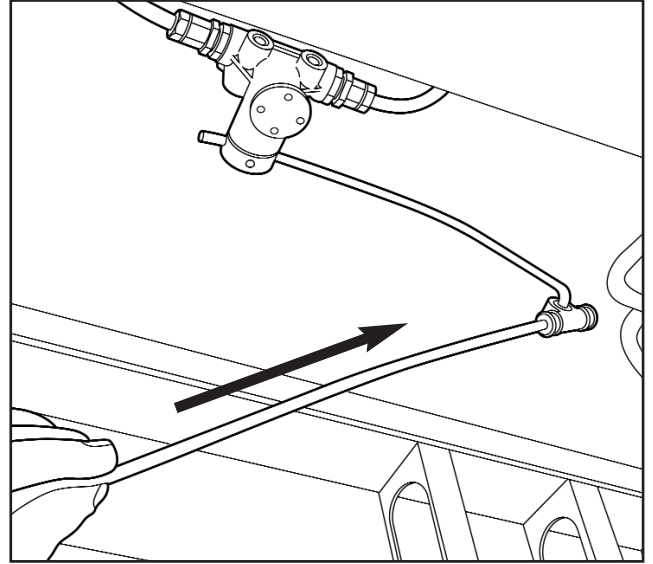

Fig 4.11
7. Pressurise the air system (Fig 4.11).